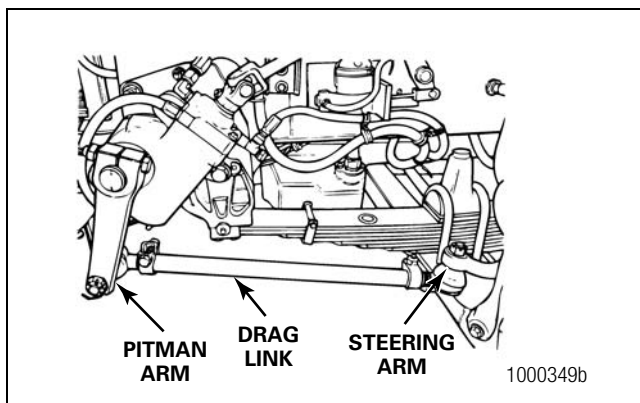

Figure 11
1. Remove the cotter pin and nut that fasten the steering arm to the drag link. Disconnect the steering arm from the drag link. Figure 11.